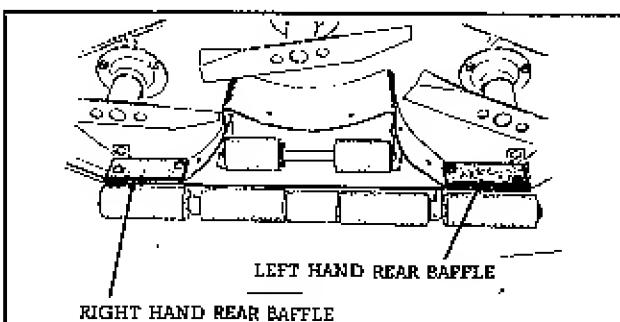

FIG. 5
2. Ins all the Left Hand and Right Hand Rear Baffle Plates as shown in Figure 5. These baffles are each held in place by 2 carriage bolts, lockwashers, and hex nuts. Note that the lockwashers and nuts are on the exterior of mower housing.